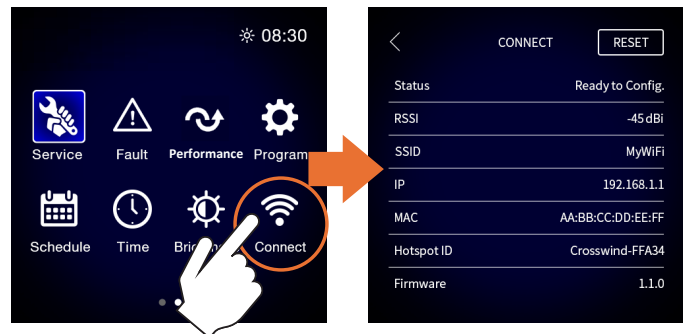

Figure 46. Wi-Fi Ready to Configure and HOTSPOT Identifier
2. Click the “Connect” icon. The Connect screen displays the Wi-Fi state, indicating a “Ready to Config” wireless connection, as well as the Hotspot ID. See **Figure 46**.